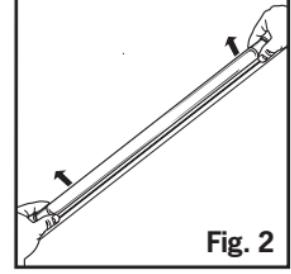

Fig. 2
- 2 Remove the bulb from the fixture (**A**) by placing your thumbs on the metal ends of the bulb. While applying slight pressure on the bulb, roll the bulb toward you until the contact pins on the ends of the bulb disengage from the socket. Pull the bulb straight out from the socket (**Fig. 2**). You may want to put the bulb(s) in a safe place until your assembly is complete.
- 2 Remove the bulb from the fixture by placing your thumbs on the metal ends of the bulb. While applying slight pressure on the bulb, roll the bulb toward you until the contact pins on the ends of the bulb disengage from the socket. Pull the bulb straight out from the socket (**Fig. 2**).